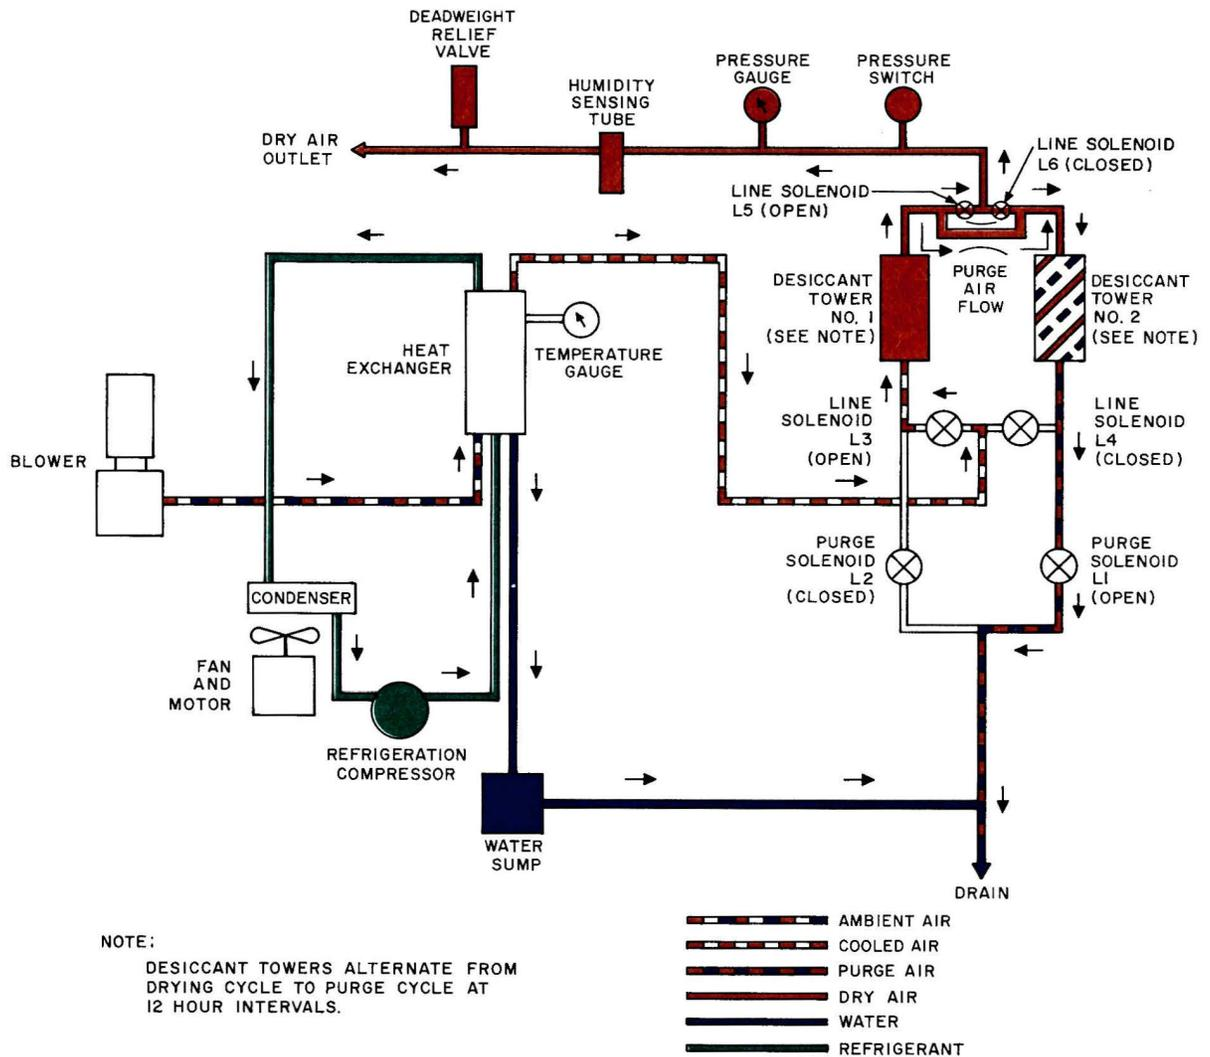

Fig. 15—KS-20183 L1 and L2 Air Dryers Flow Diagram—Equipped With SI-437 Retrofit Kit
3.01 A flow diagram of the air circuit is shown in Fig. 15. Ambient air is drawn through the intake air filter by the blower which operates continuously. Compressed ambient air from the blower enters the refrigerated heat exchanger, where 75 percent of the moisture content is condensed and removed through the water sump and drain outlet. From the heat exchanger, cooled air is routed through the timer-controlled solenoid valves to one of the two desiccant towers for final drying. Dry air from the desiccant tower is monitored by the humidity and pressure alarms and flows to the dry air outlet.